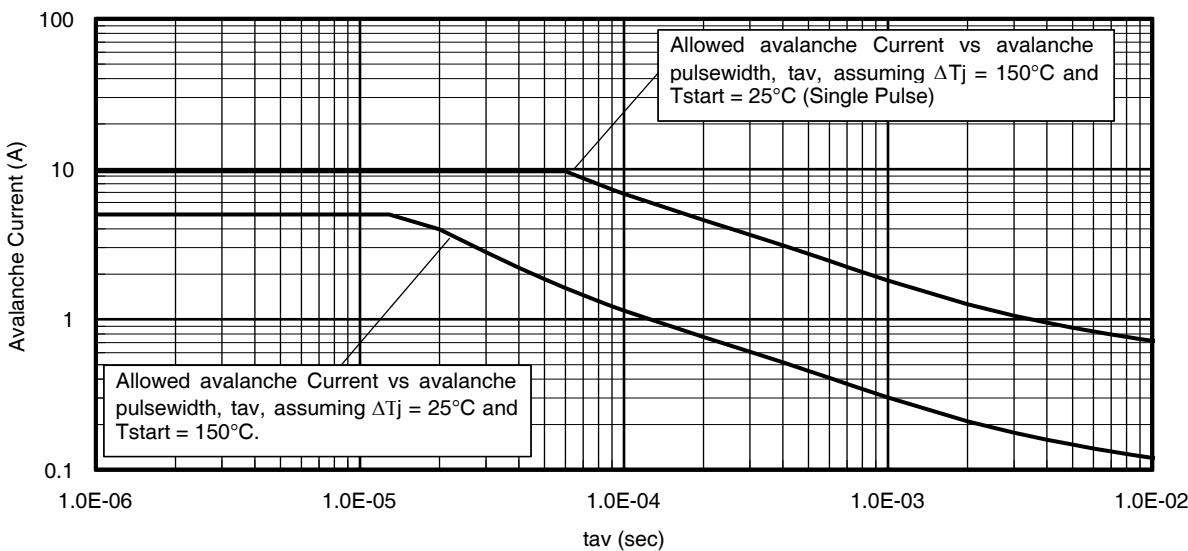

Fig 15. Avalanche Current vs. Pulse Width
| I_{AR} | Avalanche Current ① | See Fig 15, 16, 23a, 23b | A |
Notes on Repetitive Avalanche Curves , Figures 15, 16: (For further info, see AN-1005 at www.irf.com)